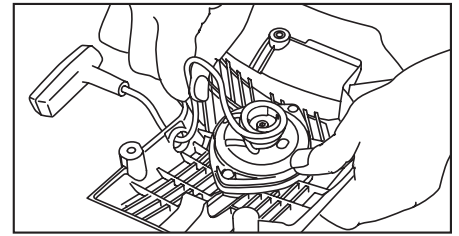

Figure 5
- Lift the starter cord up into the notch on the starter pulley (Figure 5) and wind the pulley clockwise 5 full turns. Remove the cord from the pulley notch while pinching the pulley. Release the pulley slowly allowing it to wind the rope counterclockwise onto the pulley.